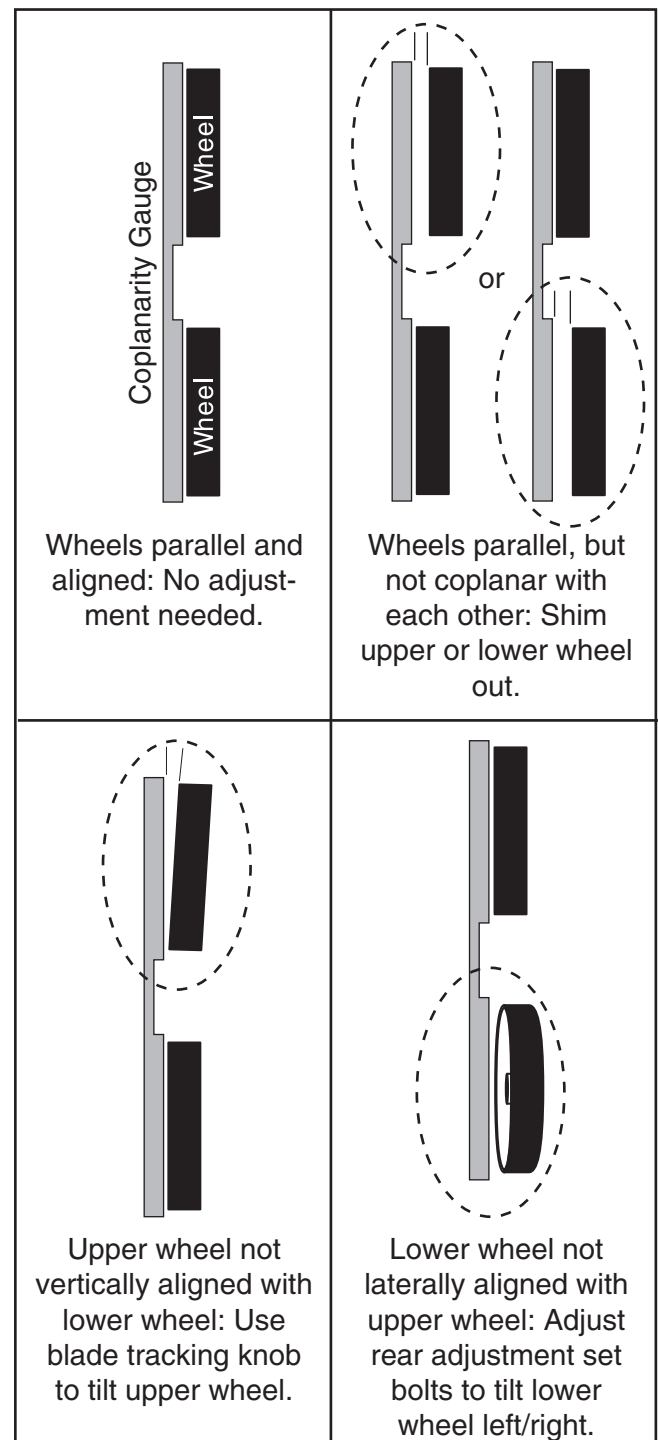

Figure 110. Wheel alignment illustration with solutions to misalignment problems.
5. Check wheel alignment and adjust tracking knob to bring both wheels into alignment as much as possible. If wheels cannot be adjusted coplanar, use **Figure 110** to determine how to proceed with alignment adjustments.